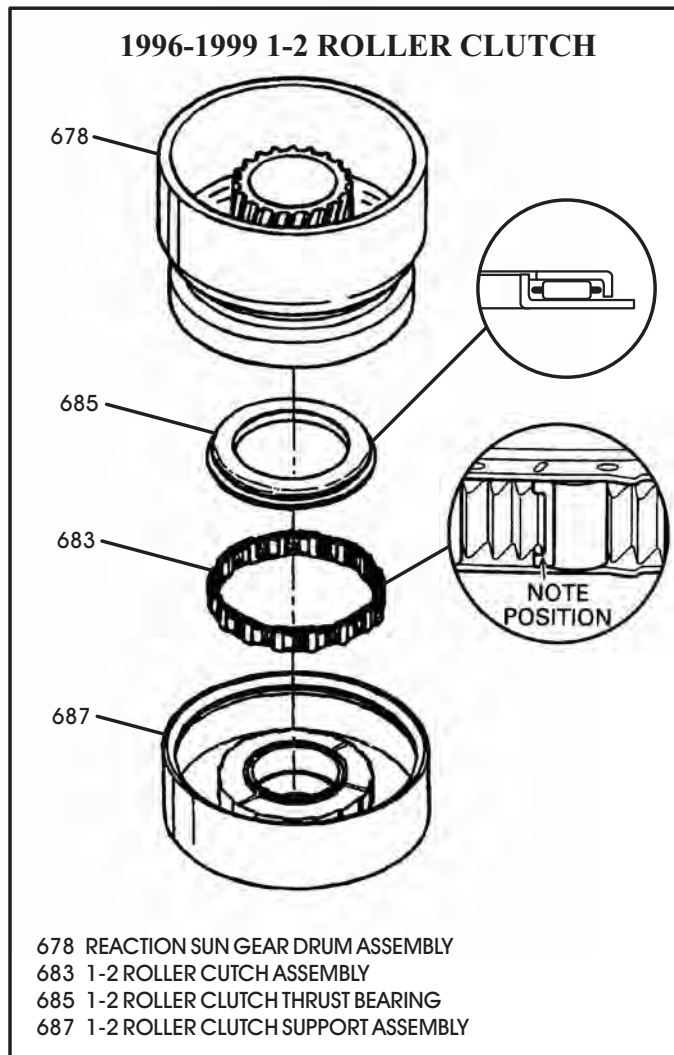

Figure 103
3. Install the roller clutch cage assembly into the 1-2 roller clutch support, in the direction shown in Figure 103, noting position of spring seats.
4. Install the thrust bearing onto 1-2 roller clutch support, in the direction shown in Figure 103.